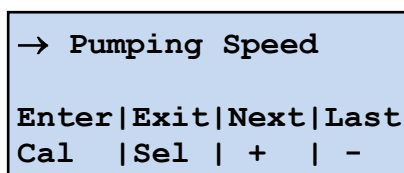

Figure 54. Pumping Speed screen.
6. Press the  button to accept the selected values and return to the **Pumping Speed** screen (see Figure 54).